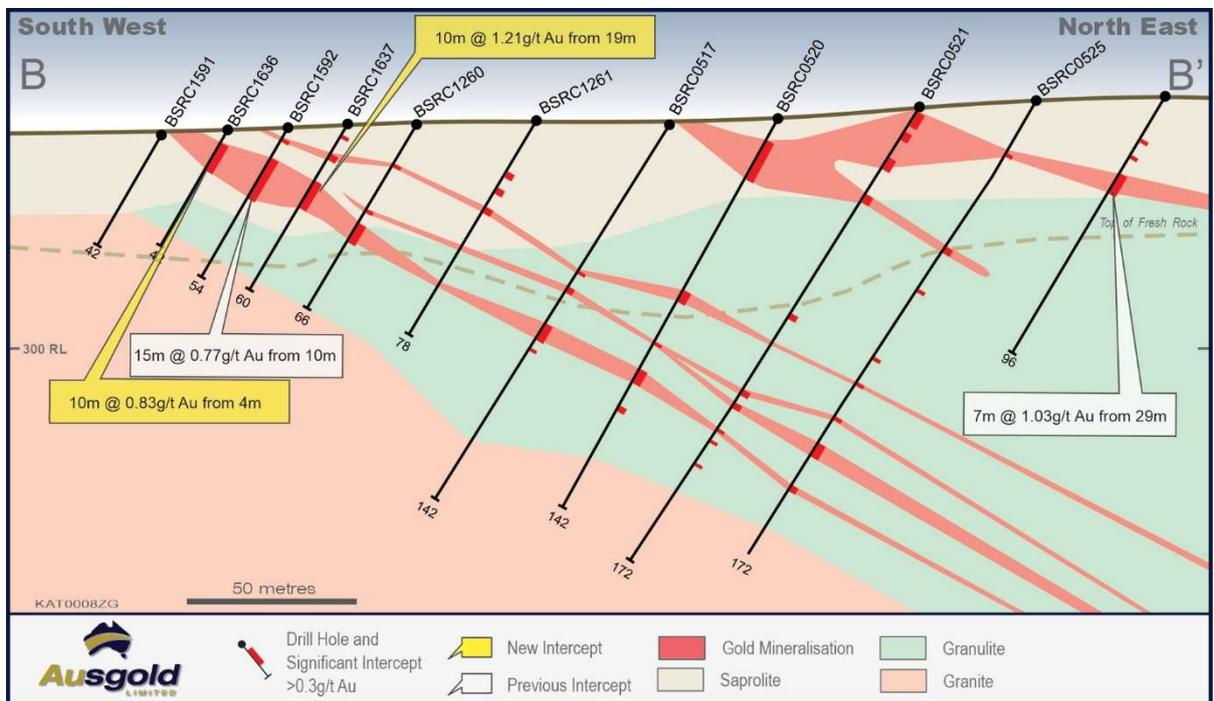

Figure 4 – Jackson Cross-section B-B'
- *10m @ 1.21g/t Au from 19m including 5m @ 1.87g/t Au from 19m in BSRC1637 (Figure 4)*
- *10m @ 0.83g/t Au from 4m including 1m @ 1.02g/t from 5m in BSRC1636 (Figure 4)*